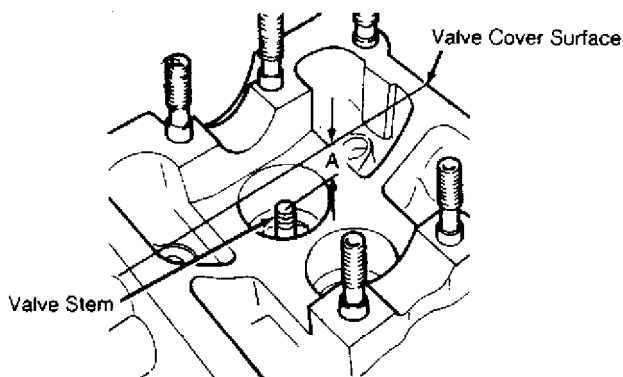

Fig. 18: Measuring Valve Installed Height
1) Check valve seats before any other cylinder head service. Insert the valve and hold firmly against the valve seat. Measure valve stem tip-to-cylinder head distance. See Fig. 18.